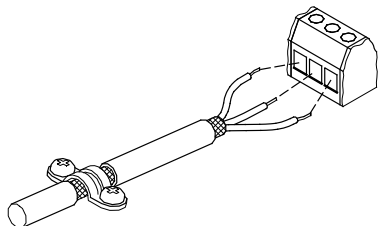

Fig. 11 Stripped cable with screen and wire connection
- Connect the screens of the cables to frame at both ends with good frame connection. The screens must be as close as possible to the terminals. See fig. 11.